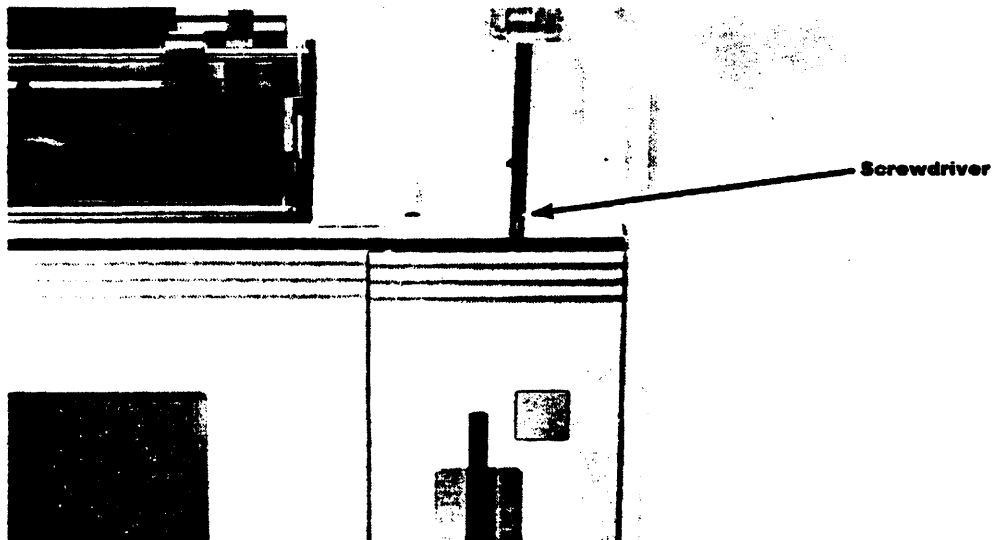

Figure 6-24. Disconnecting the Disc-Drive Bezel
3. Insert a small flat-blade screwdriver between the disk drive bezel and the front edge of the cable well just to the right of the centerline of the bezel. It should contact the latch approximately $\frac{3}{4}$ -inch below the top edge of the bezel. See the figure 6-24.